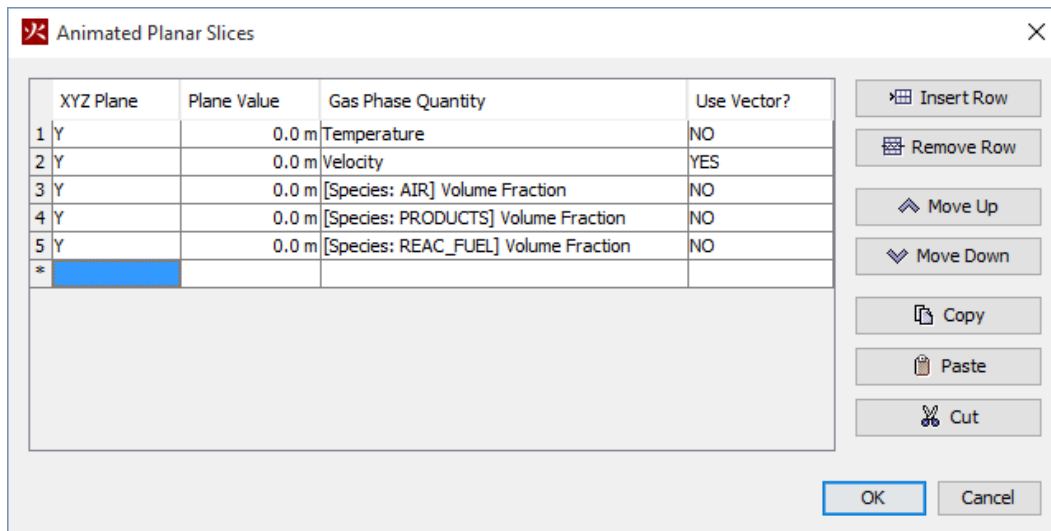

Figure 7: Defining the slice plane plots.
9. Repeat so that you are plotting the Volume Fraction of **AIR**, **PRODUCTS**, and **REAC_FUEL**. This will show us where the reaction is occurring. Air is supplied from the open boundaries, fuel is supplied by the fire surface, and products are the result of combustion. See Figure 7.